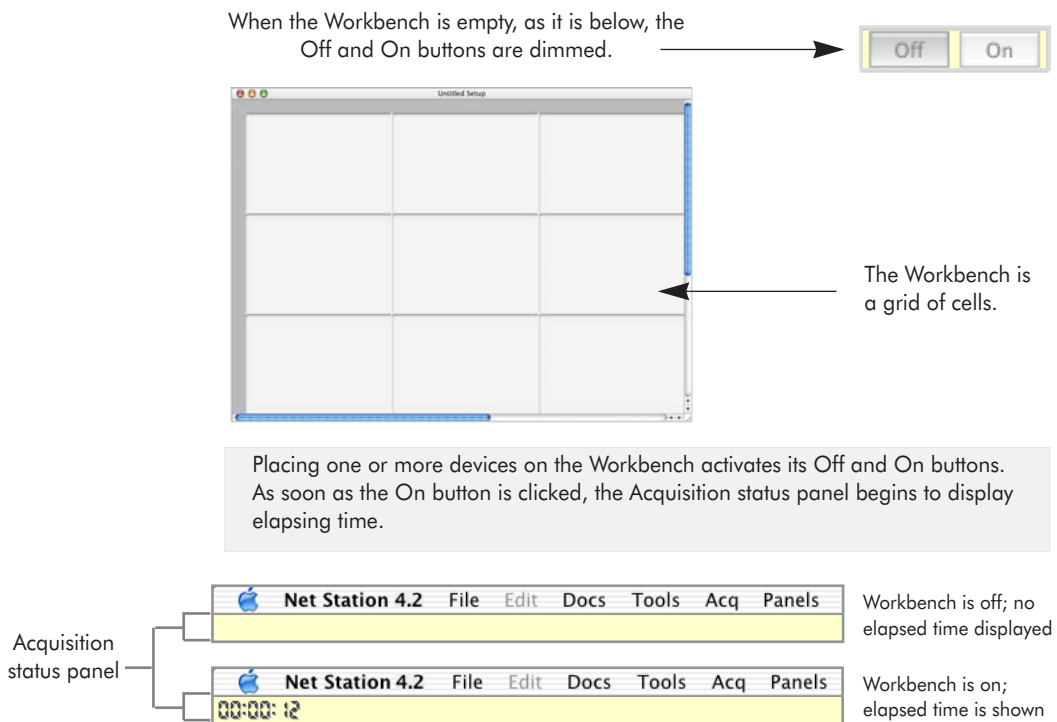

Figure 3-1. Menu and Acquisition status panel
Above the Workbench is the Net Station menu bar associated with the Workbench, and attached to the lower margin of the menu bar is the yellow Acquisition status panel (Figure 3-1).
The Record menu is not available when the Workbench is off (see Figure 3-1).
- *Turn On/Off Workbench*: activates/deactivates the Workbench devices. You can also turn the Workbench on or off by using the buttons on the right side of the Acquisition Status panel just below the menu bar (Figure 3-1).